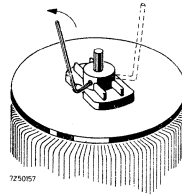

Fig. 2
4. Insert a spindle (8 mm  $\varnothing$  or 5/16"  $\varnothing$ ) of the desired length (2 standard lengths available, catalog number 4322 026 08351 of 300 mm and catalog number 4322 026 08361 of 450 mm length for 2 and 3 transformers respectively) in the first transformer and secure it in the desired position (see distance C, previous page) as shown in Figs. 2 and 4.
8. Place the brush carrier of each transformer in the same position and secure the spindle on the second and third transformer as shown in Fig. 2.